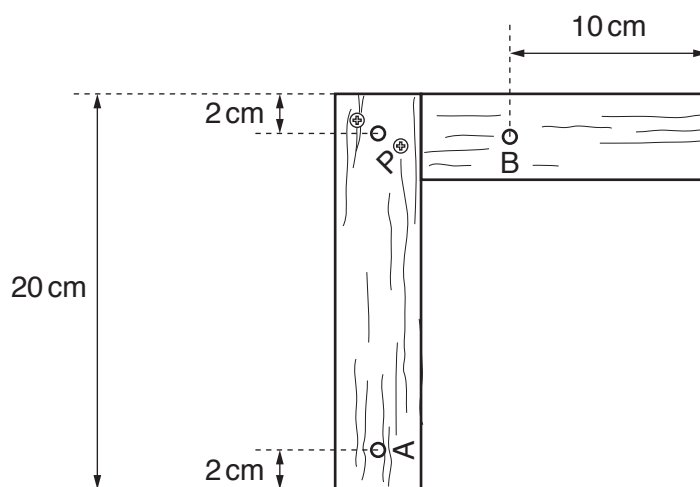

Fig. 2.1
1. The L-shaped beam could be made by joining together two pieces of wood ($20\text{ cm} \times 4\text{ cm} \times \text{approx. } 1\text{ cm}$) as shown in Fig. 2.1. Alternatively, two pieces of thick corrugated card ($20\text{ cm} \times 4\text{ cm} \times \text{approx. } 4\text{ mm}$) can be used. The cardboard from sturdy packing boxes is suitable.